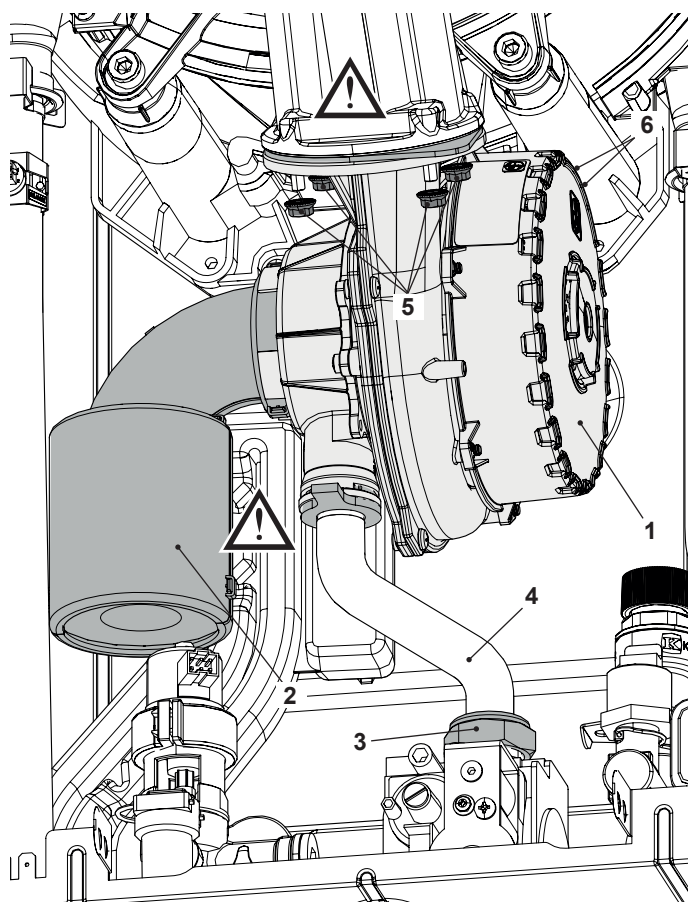

Figure 17.2
- 3 Unscrew the gas connector "3" and remove the gas pipe "4" (Figure 17.2).
Before reassembling ensure the fan gasket (Figure 17.2) is correctly mounted.